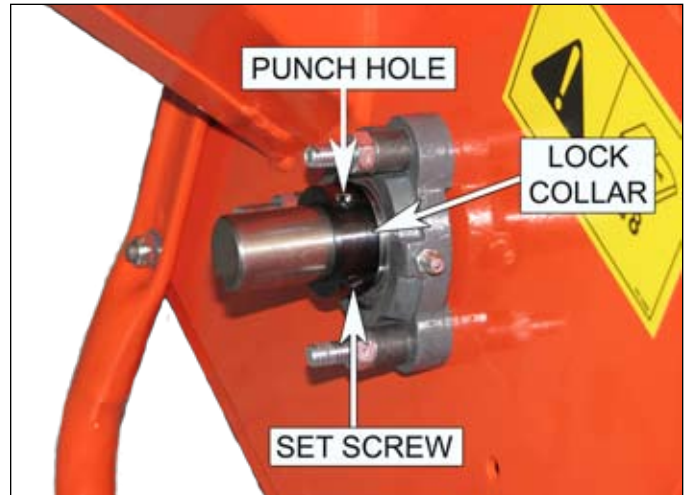

Figure 5.2 - Lock Collar
2. Loosen the set screws holding the lock collars on the chute side and engine side bearings (Figure 5.2).